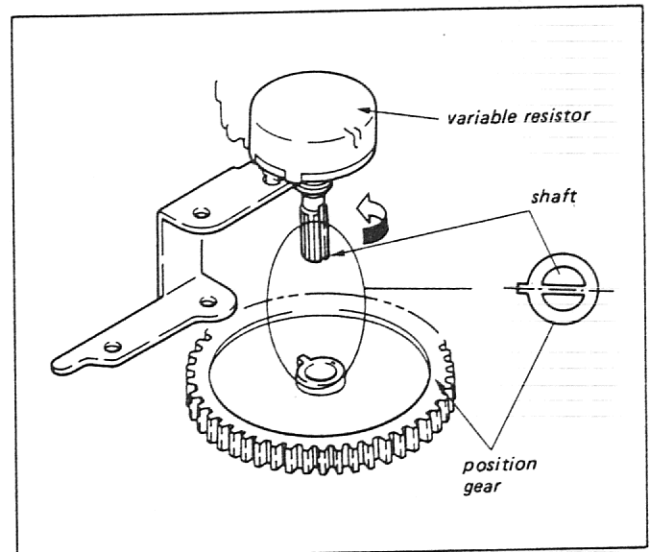

Fig. 7-5
2. Attach the position gear to the shaft so that the slit in the shaft matches the projection on the gear as shown in Fig. 7-5.